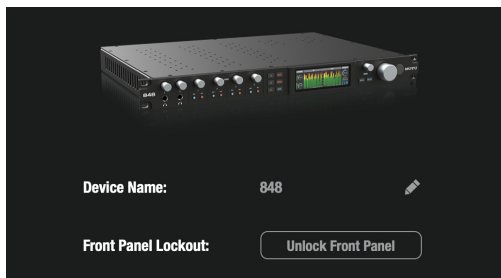

Figure 5-7: Disabling Front Panel Lockout mode in the Device tab in CueMix Pro.
- In CueMix Pro, go to the Device tab and click the *Unlock Front Panel* button (Figure 5-7).